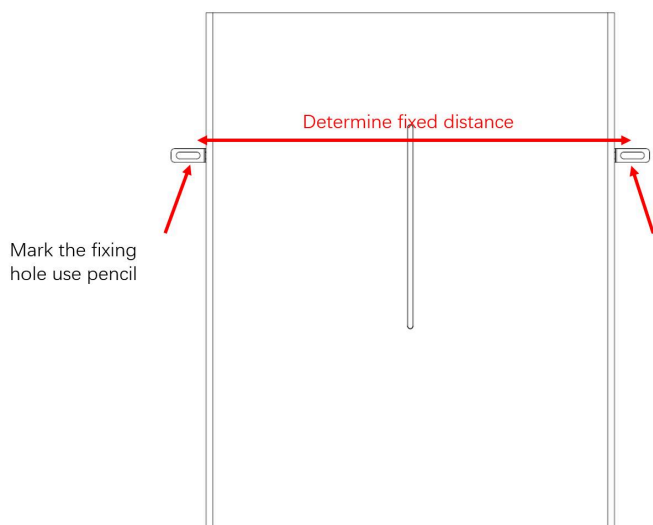

Figure 5-5
- d) Stand the battery on the side of the wall, mark the location of the fixing hole, Choose the recommend drill head (as shown in below picture) to drill 2 holes on the wall, 100-110mm deep, as shown in Figure 5-2 and Figure 5-5.